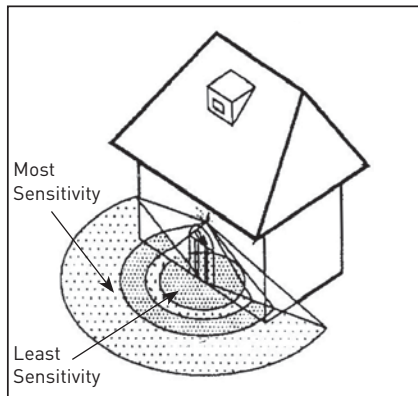

Fig. 4
- The inner zone covers an angle of 360° which allows detection immediately behind the MLB/WPRO500C. (See Fig.4).
- Fig. 4 also shows the variation of sensitivity with angle of approach for a person moving within the detection area.
- Decide the best location to install the unit bearing in mind the most sensitive direction of movement shown in Fig. 4.